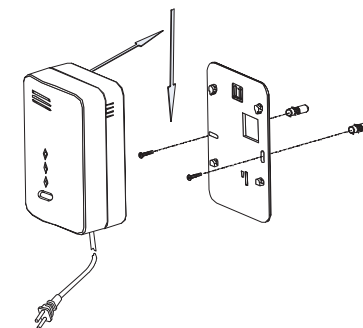

Fig. 3
3. Using a 3/16-inch (5 mm) drill bit, drill two holes at the marks and insert wall plugs (Fig. 3).
5. Line up the side slot of the bracket and the detector. Push the detector onto the mounting bracket and fix it (see arrow direction, Fig. 3). Pull the detector outwards to make sure that it is securely attached to the mounting bracket.
3. l'aide d'un foret 3/16 (5 mm), percer deux trous dans les marques et insérez les chevilles (Fig. 3).